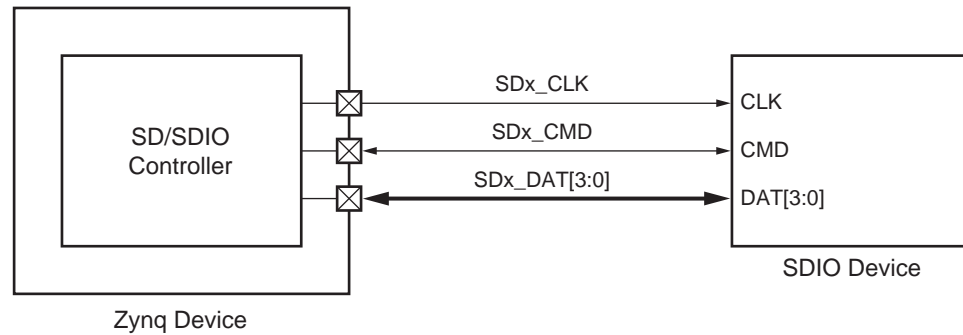

Figure 13-7: SDIO Controller Device Wiring Diagram
Zynq-7000 devices provide two secure digital (SD) ports that support SD and SDIO devices (see Figure 13-7).